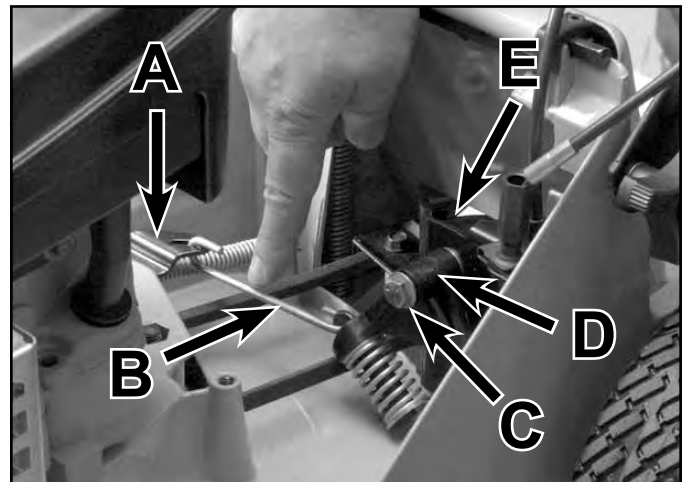

Fig 200
3. Note the orientation of the control link in Figure 200. Make sure that it is installed correctly into the bellcrank.
4. Slide a flat washer and a bushing onto the shoulder bolt and slide into the front side of the bellcrank as shown in Figure 200. Complete reassembly of the bell crank system by sliding another flat washer onto the carriage bolt.